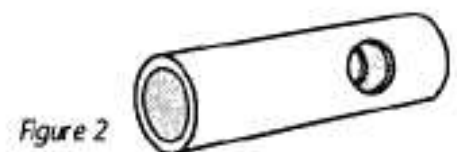

Figure 2
7. Punch or drill a 3/16" hole 3/8" from one end of each piece of vinyl tubing, as in Figure 2.